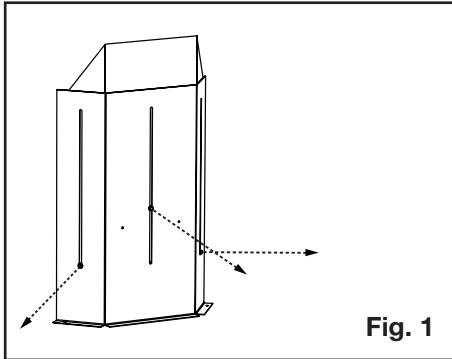

Fig. 1
1. Install standoffs onto the firestop spacer (**Figure 1**).
1. Unscrew the fasteners on the vent shield assembly. DO NOT DISCARD FASTENERS (**Figure 1**).